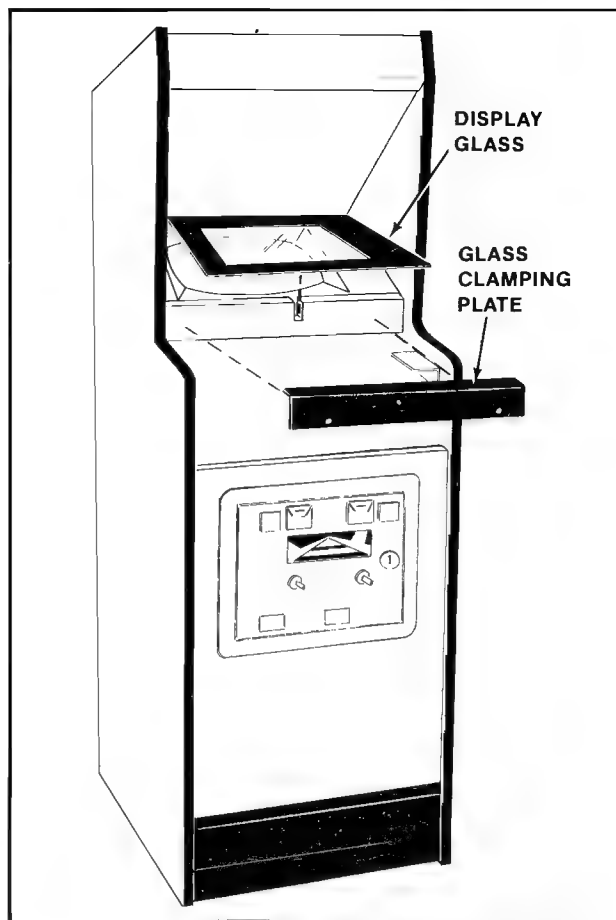

Figure 4-6 Removing the Main Display Glass & T.V. Bezel — Mini
- ☐ Remove the screws which secure the glass clamping plate. See Figure 4-6.
- ☐ By putting your finger in the hole in the middle of the main-display-glass support, you can lift it up and out. See Figure 4-6.